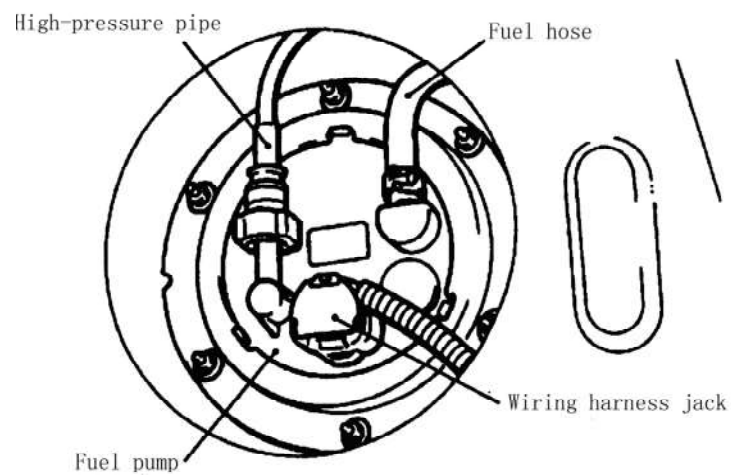
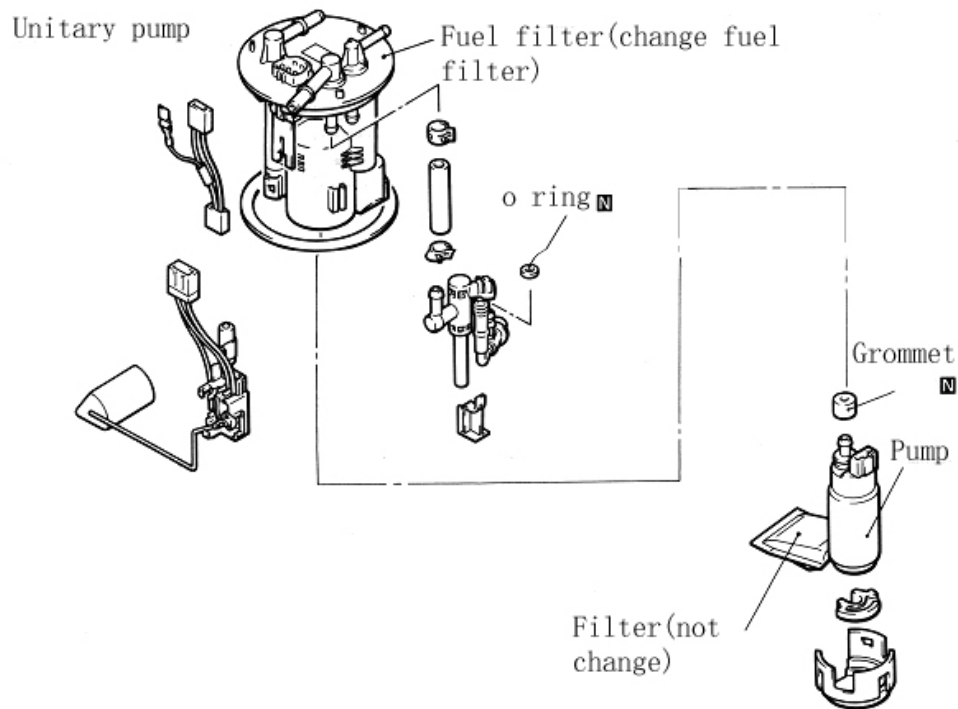

Fig. 6-6
Fig. 6-7
(3) Replace fuel filter
- ① Remove rear seat, and then lift floor pad.
- ② Remove checking cap.
- ③ Remove harness connector pin and fuel hose. (see Fig.6-6).
- ④ Remove mounting nut, and then remove fuel hose, and fuel pump.
- ⑤ Remove fuel filter from fuel pump. (see Fig.6-7).
- ⑥ Install new fuel filter.
⑧Fuel hose and harness socket connection. (see Fig.6-6).